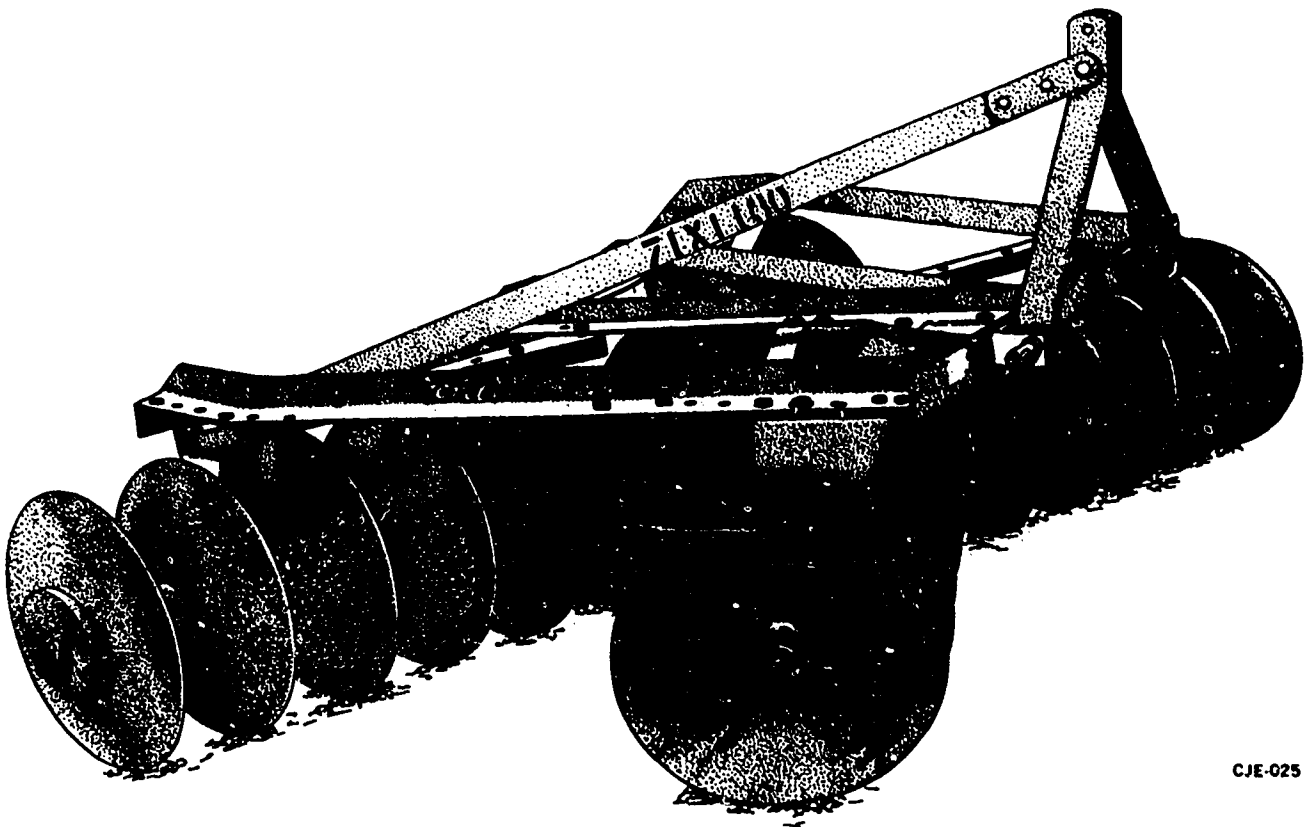

Figure 6-22. Disk harrow.
Harrows. Three types of harrows are in general use at Air Force installations: (1) disk, (2) spring-tooth, and (3) spike-tooth harrows. A disk harrow (fig. 6-22) is used primarily for pulverizing soils. It can be used to chop weeds and light brush in areas too rough for mowing. A disk harrow is often used to pulverize plowed ground during seedbed preparation where sod is to be established. The two sets of disks are arranged to throw dirt in opposite directions, leaving a loose, relatively smooth, surface.